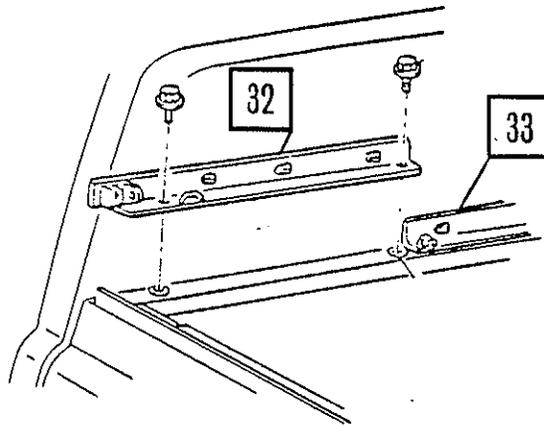

Figure 9.
36. Remove cargo cover rail assembly from pickup box and replace with new cargo cover rail assembly (Figure 9.). Tighten bolts to 22-27 lb.-ft. (2.5-3.0 Nm).